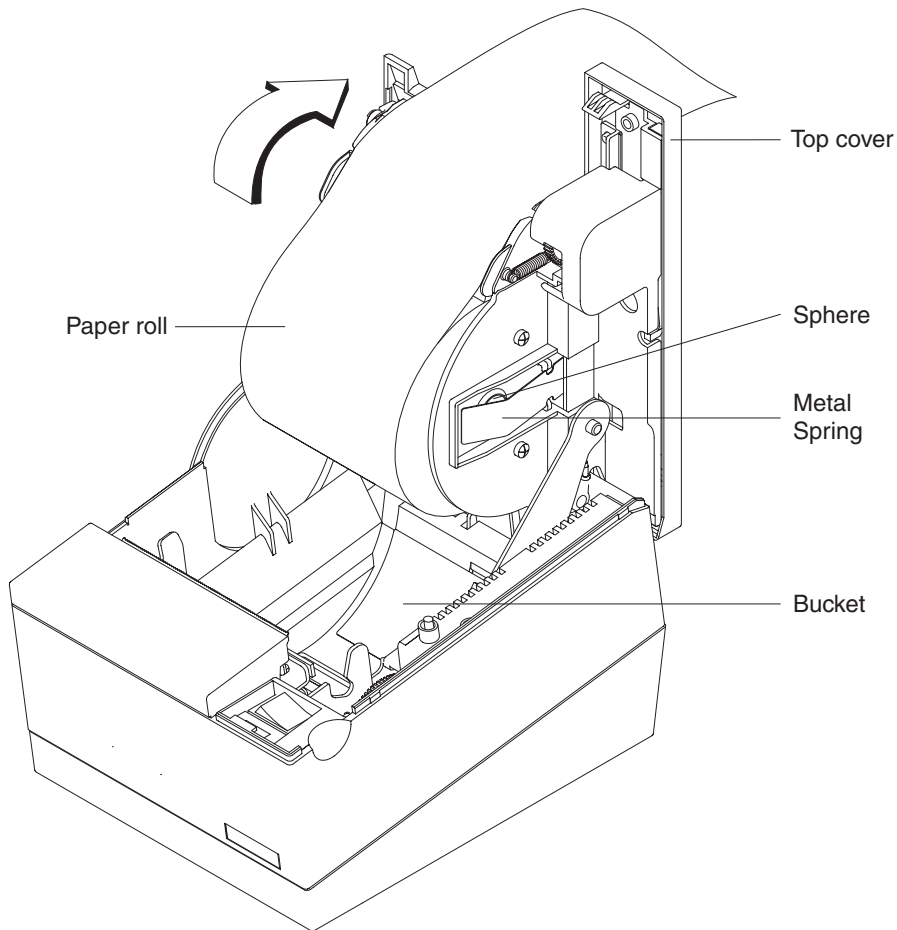

Figure 28. Paper Loading Path
3. If the printer is configured for "snap in" paper loading (two white spheres are present behind the metal springs), then place the paper roll onto the paper roll holder as shown in Figure 28 on page 64; otherwise, drop the roll into the bucket. The leading edge of the paper should come from the direction of the back of the printer and go across the bottom of the roll as shown in the diagram.